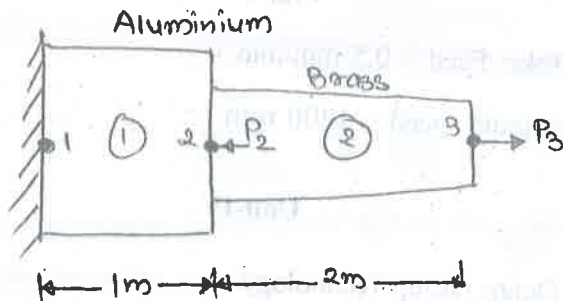

Fig. 2
- (d) For the axially loaded member shown in fig. 2 determine the nodal displacements. 7